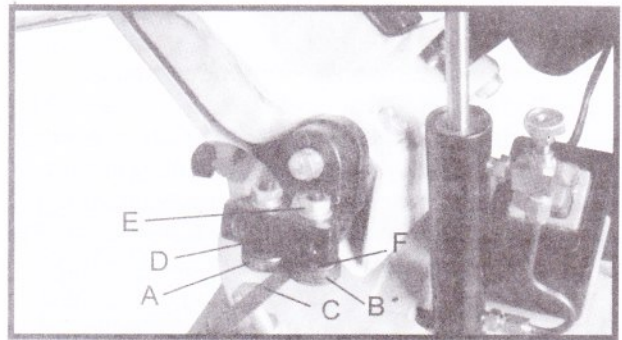

Fig.9
2. The blade guide bearings (A) and (B) Fig. 9 should be adjusted so they just touch the sides of the blade (C) after the blade is tracking properly and the blade support bearing has been adjusted. To adjust, proceed as follows:
3. Remove the cover plate that is attached to the face of the right guide bracket (D) Fig.9.
4. The inside guide bearing (A) Fig. 9, is mounted to a fixed shaft and cannot be adjusted. The outside guide bearing (B) is mounted on an eccentric shaft and should be adjusted so that the sides of the blade (C) just contact the guide bearing (A) and (B). To adjust, loosen nut (E) and turn adjusting nut (F) until proper adjustment is made. Then tighten nut (E).